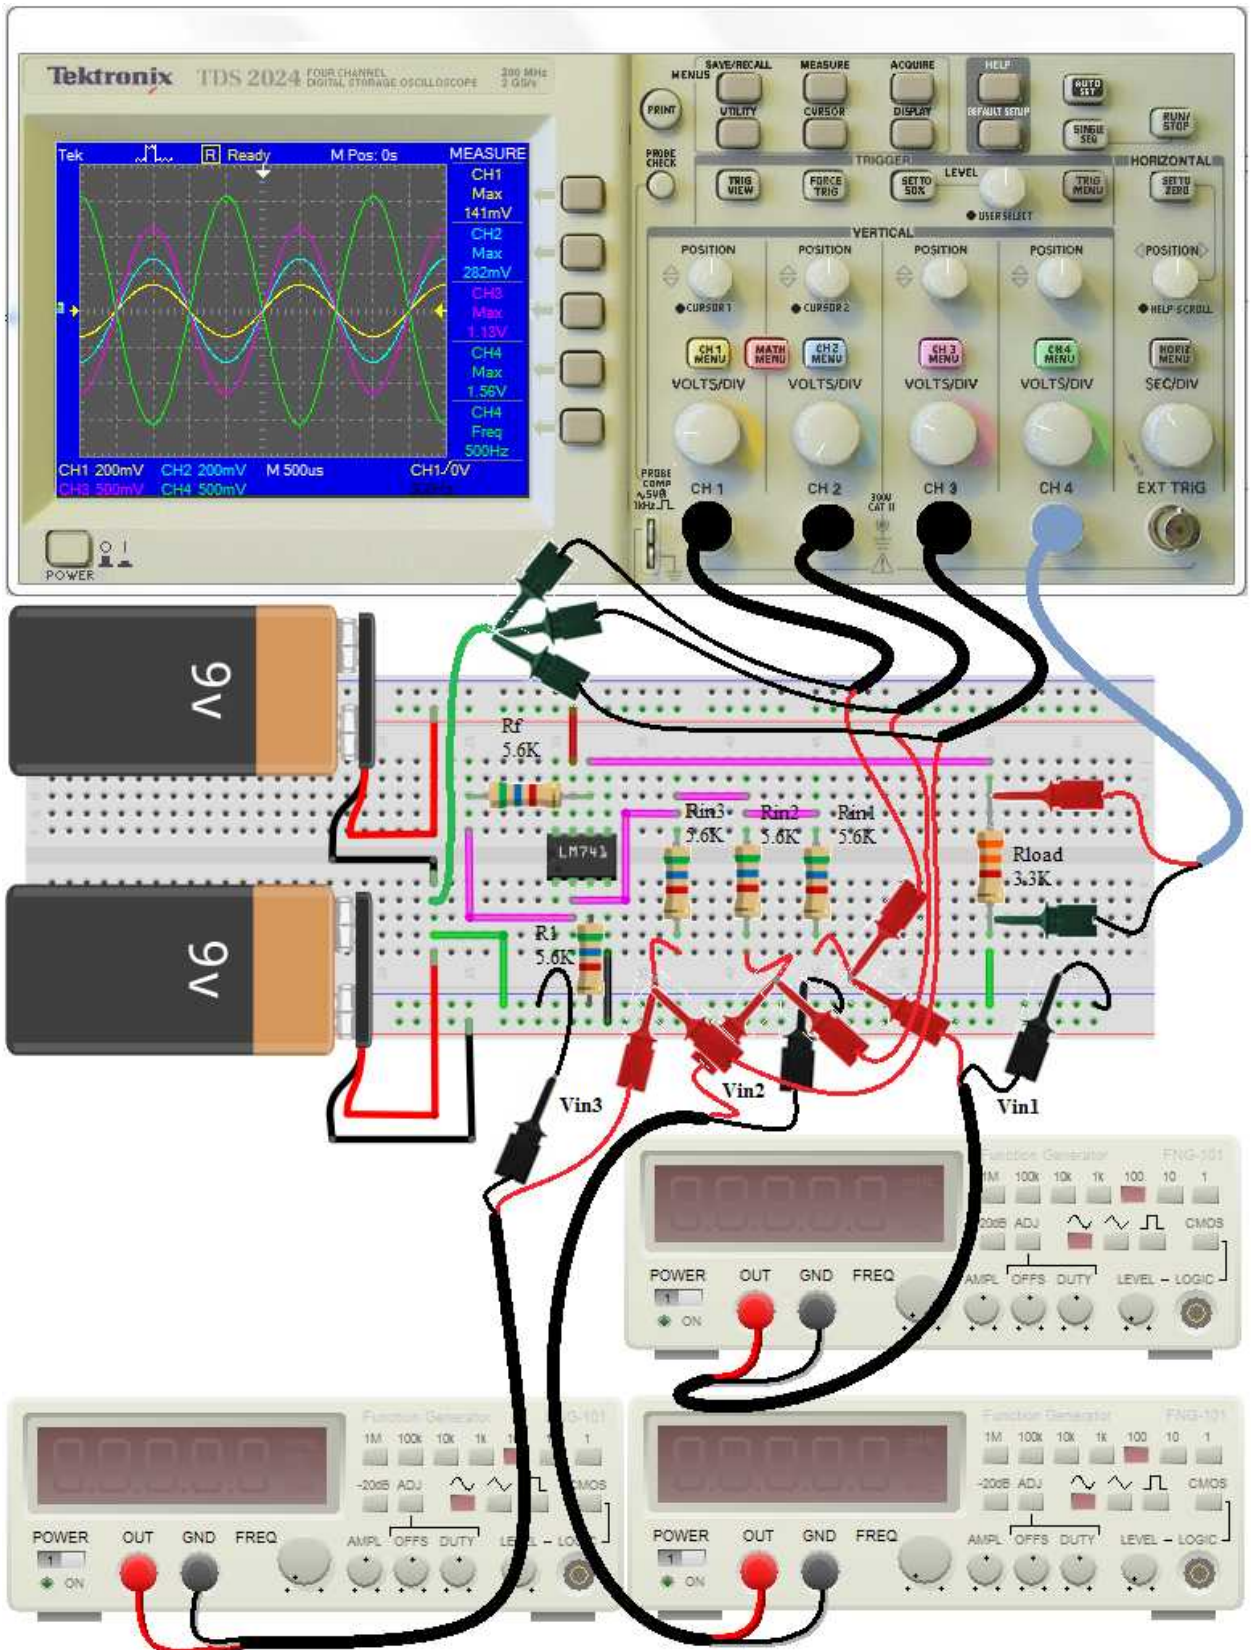

Figure 7-55: Adder (summing) amplifier circuit connection
1. Connect the circuit as illustrated in figure 7-55. Before turning on the power calculate the gain and the expected result for each value of resistors you are using so that you will be able to compare the theoretical and practical result.